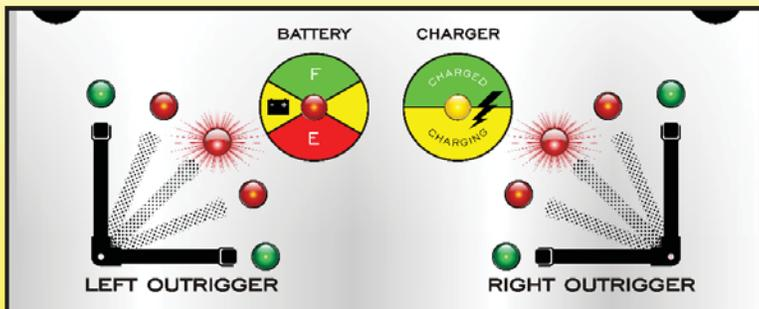

Figure 19 Battery Lockout Mode LED Indicators
the same time as shown in figure 19. Before using the UniLift for the first time, plug an extension cord into the charger's power cord and allow the batteries to completely charge. The "Charging" LED will glow green when the batteries are fully charged. The UniLift is now ready for use. Before using the UniLift, make sure you are familiar with the SAFETY INSTRUCTIONS, the OPERATING INSTRUCTIONS and are TRAINED. Only trained and authorized personnel shall be permitted to operate a UniLift.
UniLift in Service Mode/ LED indication – The UniLift operates using a series of switching and coordinating movements. The UniLift control system is programmed to enter Service Mode in the event the UniLift's program sequence has been compromised. In the event the UniLift enters Service Mode all six (6) red LEDs inside the arc of the right and left banks will illuminated continuously as shown in Figure 19. The UniLift will not operate in Service Mode. Remove the UniLift from service and have a qualified technician troubleshoot and perform service. Contact Bishamon Industries for assistance in troubleshoot and service.